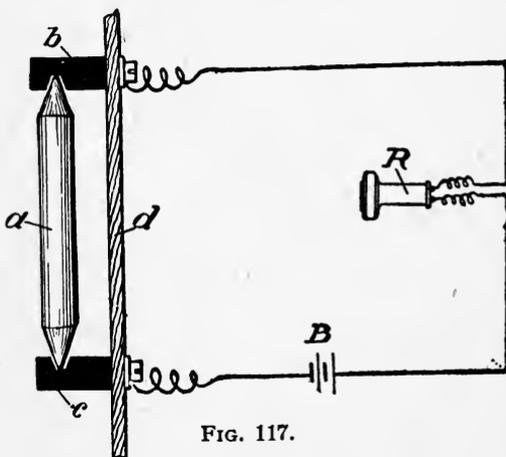

FIG. 117.
**212.** A device for rendering faint or distant sounds distinctly audible, is called a *microphone*. The principle of the microphone is shown in fig. 117. It consists of a stick of carbon  $a$ , which being cut to sharp points